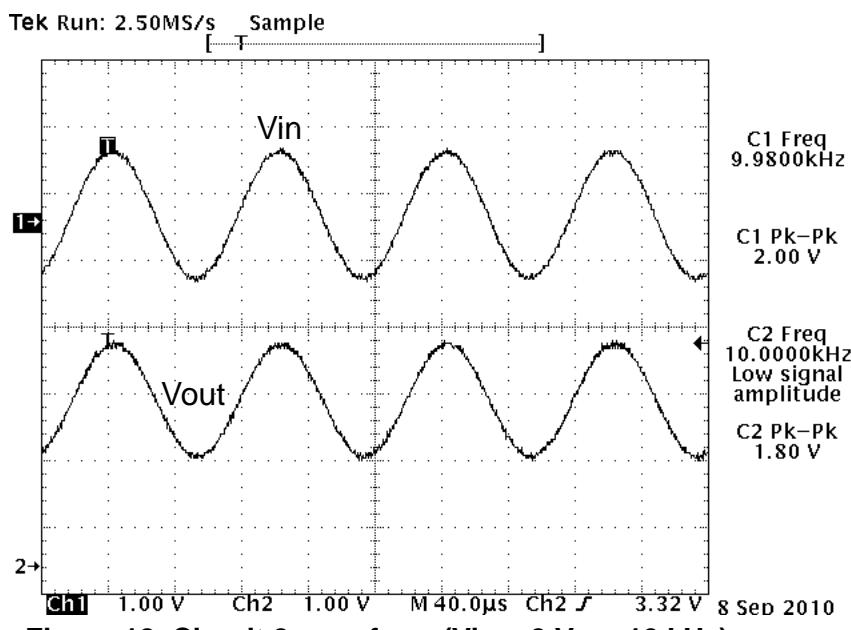

Figure 12. Circuit 2 waveform ( $V_{in} = 2\text{ Vpp}$ , 10 kHz)
7. Figures 12–16 show various analog signal responses of Circuit 2.